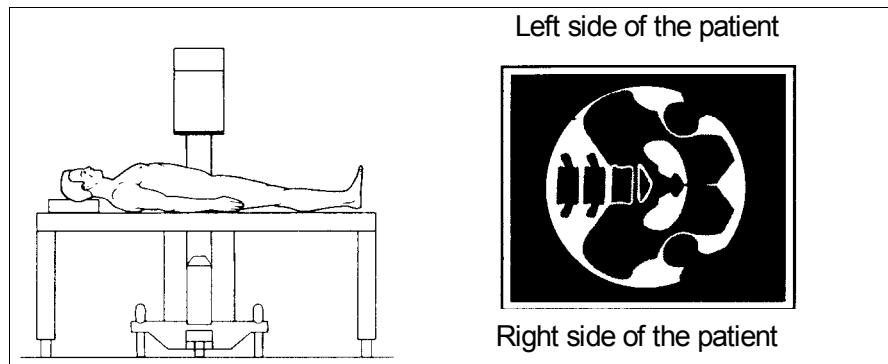
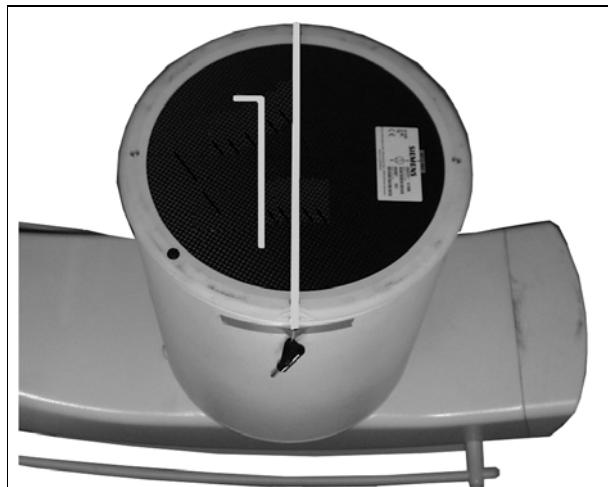
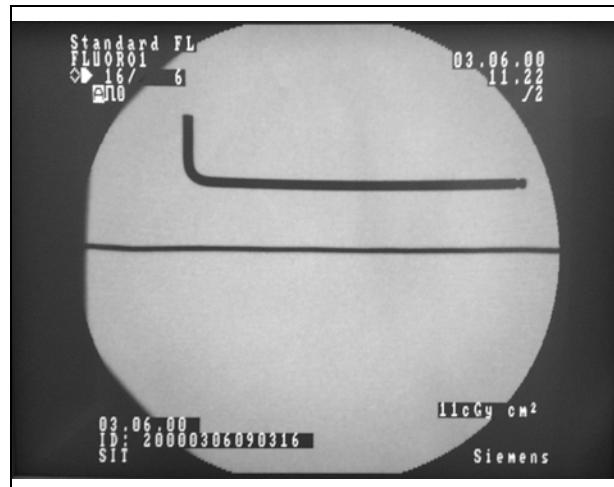

Fig. 4
Fig. 5
Fig. 6
Before adjusting the camera rotation, the keys for horizontal and vertical image reversal must be off. Camera rotation should be set to the 0° position. Fig. 4, Fig. 5 and Fig. 6 shows the 0° position.
- Mount a piece of wire and an Allen key to the I.I. input screen as shown in Fig. 5. Fig. 6 shows the corresponding fluoro image at 0 degree camera rotation position.
- Switch on fluoro and rotate the camera to the 0° position. The image (left/right / up/down) will correspond to Fig. 6.